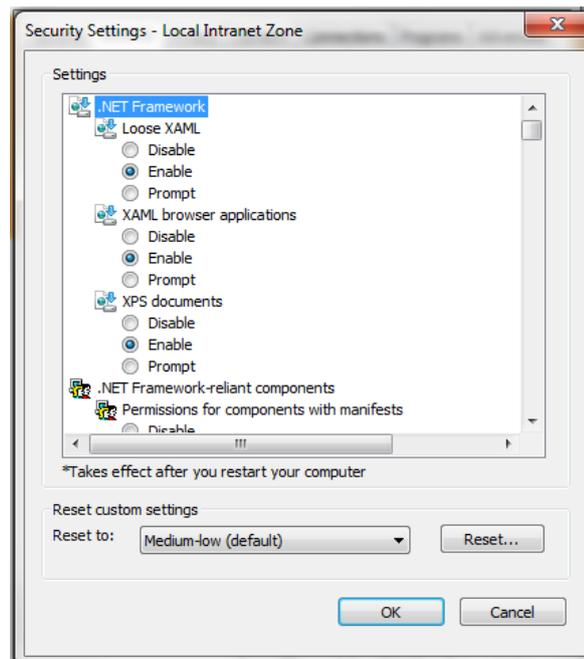

Figure 3-29 Security Settings 2
2) Select **Local Intranet** as shown in the Figure3-28, click **Custom Level ...**, and the dialog box shown in the Figure 3-29 will pop up.
- 3) Select "**Medium Low (default)**" as shown in the Figure 3-29, and click the **Reset (E)** button to end resetting the custom settings.